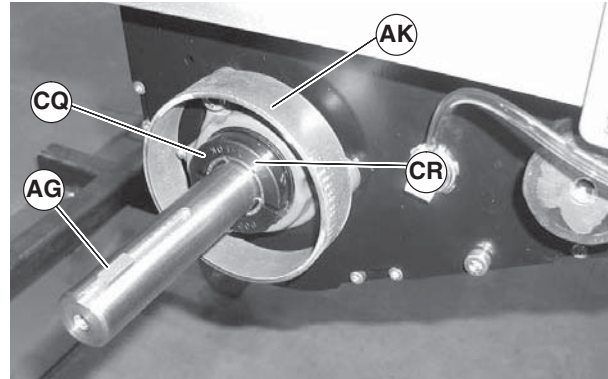

Figure 87
3. Remove spacer ring (Figure 87, item AK) and key (AG). Loosen clamp screw (CQ) and remove bearing collar (CR).
7. Reinstall bearing collar (Figure 87, item CR). Tighten clamp screw (CQ) to 95 in-lbs (11 N-m).
8. Reinstall key (Figure 87, item AG).